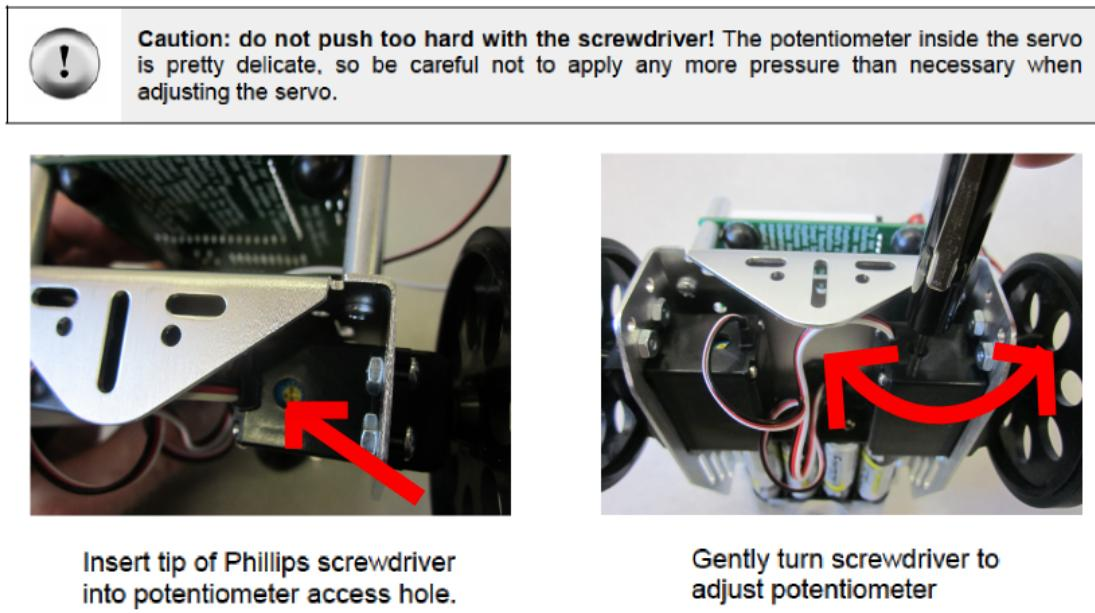

Figure 10: How to center a servo.
4. The rate at which the servo turns is controlled by a resistor called a *potentiometer*. Gently use a screwdriver to adjust the potentiometer in the servo as shown in Figure 10. USE CAUTION WHEN YOU DO THIS, THE POTENTIOMETER IS FRAGILE. Adjust the potentiometer until you find a setting that makes the servo stop turning.